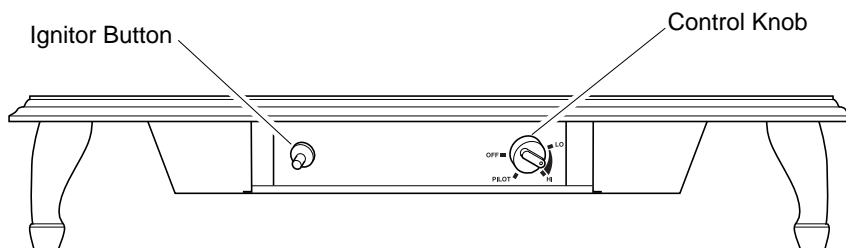

Figure 22 - Control Knob and Ignitor Button Location
4. Wait five (5) minutes to clear out any gas. Then smell for gas, including near the floor. If you smell gas, STOP! Follow “B” in the safety information on page 18 . If you don’t smell gas, go to the next step.
5. Slightly depress and turn control knob counterclockwise  to the PILOT position. Keep control knob pressed in for five (5) seconds (see Figure 22, page 19).